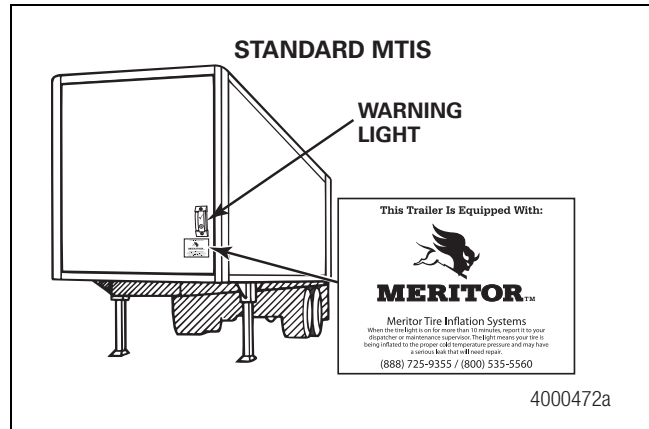
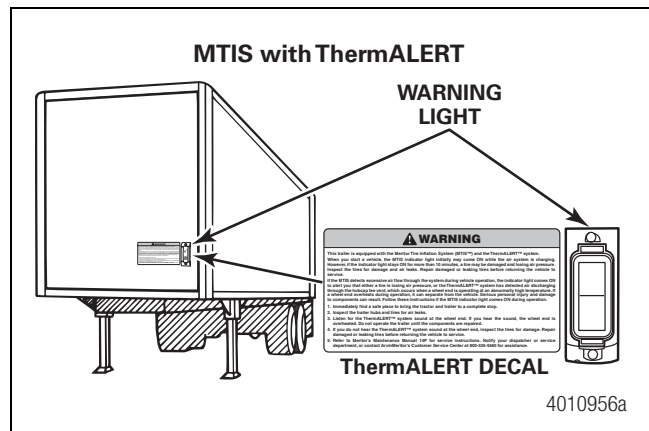

Figure 2.74
Figure 2.75
2. Install the warning light decal near the light. Figure 2.74 or Figure 2.75.